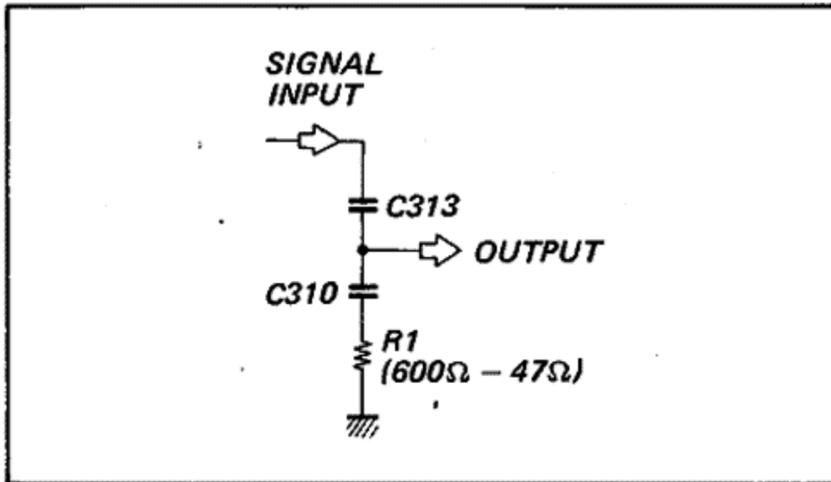

Fig. 1-7.
If R_1 (assumed in this case to be variable between 47 and 600 ohm approximately) is then connected to C310 as shown in Fig. 1-7, the circuit will be given high boost characteristics at frequencies where X_c (of C310) equals R_1 .
The level at which signals become subject to noise reduction is dependent on when the NR amplifier 2 drives the DET, and starts to activate the variable impedance Z (at the same value as R_1 in Fig. 1-7). The Dolby circuit is turned on and off by the DOLBY FM switch. When the switch is turned off, a positive \oplus potential is applied to terminal ⑥, thus reducing the variable impedance Z , and thus switching the Dolby circuit off.